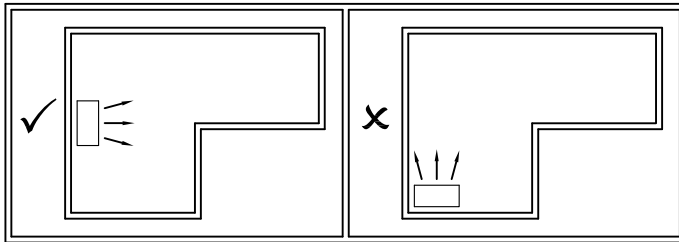

Figure 1.
- Before installing the unit the installation location should be considered so that the cool air can be distributed throughout the room as shown in figure 1.